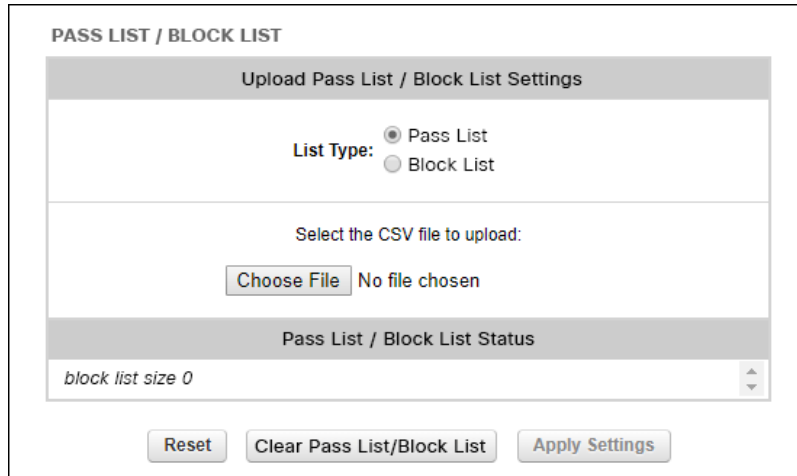

Figure 32. Configurator (Pass list / Block list dialog)
- The **Pass list / Block list** dialog will be shown (Figure 32 \(page 74\)).